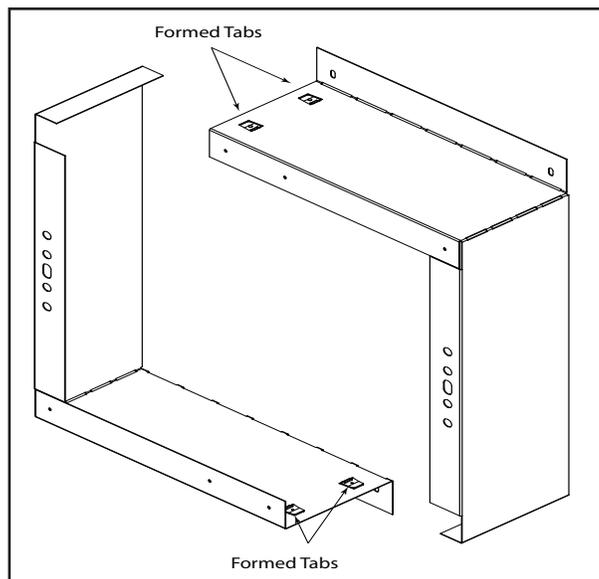
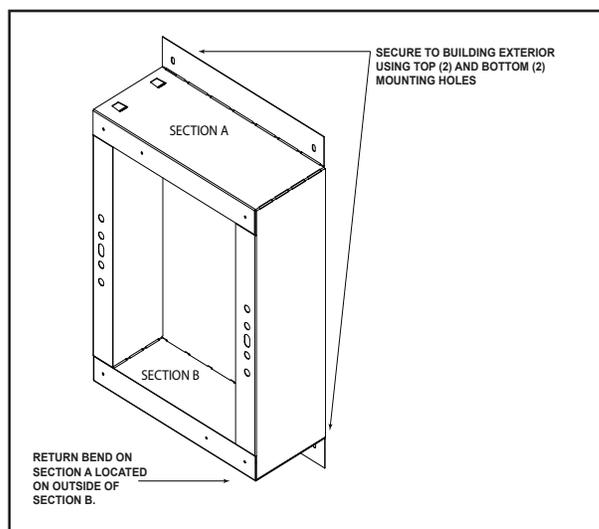

Figure 2.8 Bend BEK Sections
Figure 2.9 BEK Assembled
5. Assemble the HEAT-OUT-BEK kit. Bend the two sections of the HEAT-OUT-BEK kit as shown in Figure 2.8.
6. Use the formed tabs to assemble the box as shown in Figure 2.8. The return bend on section A should be located on the outside of section B. See Figure 2.9.